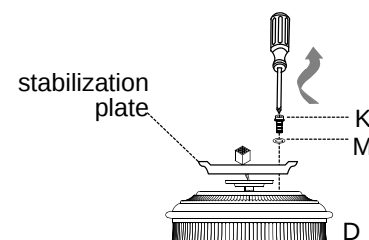

Fig. 5
5. Remove motor screws (K) and lock washers (M) from underside of motor. Remove and discard blue motor stabilization plate. [Fig. 5]
5. Find a secure attachment point (wood ceiling joist highly recommended) and secure safety cable (U). It will be necessary to use a heavy duty wood screw, washer and lock washer (not supplied) with the safety cable (U) loop. [Fig. 5] Extra cable slack can be left in ceiling area.